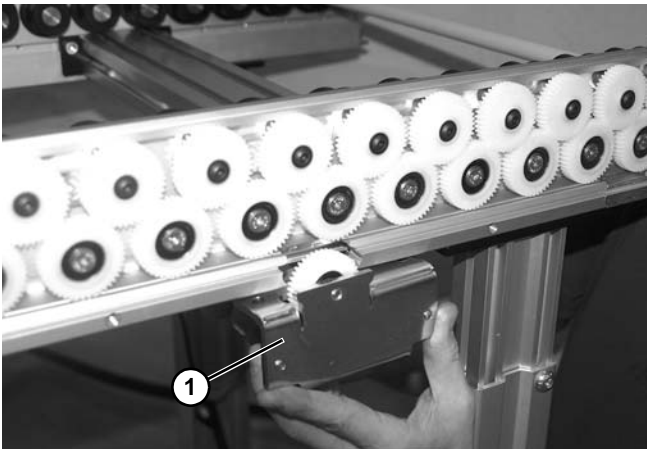

Figure 71
3. Lower and remove motor (Figure 71, item 1) from conveyor frame.